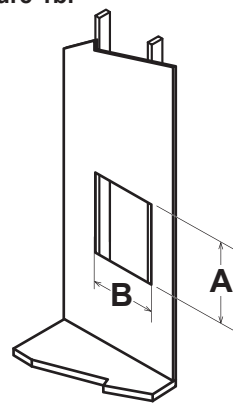

Figure 2a.
3. Fabricate a support frame structure from suitable wood pieces as shown in option **Figure 2a (2"x4" Frame Construction)** or **2b (Plywood Sheet Construction)**. Use a generous quantity of wood screws and glue to hold the support frame structure together as shown. Support frame width (D) should fit snugly between wall studs. Support frame height (E) should be from 24-32" (61-81cm) high or more, depending on material and stiffness of wall studs. For support frame structure in **Figure 2a**, locate top cross member (F) to position in line with top fastener holes when rail is located at the height (H). Lower cross members (G) should be spaced 8" (20cm) from top cross member.